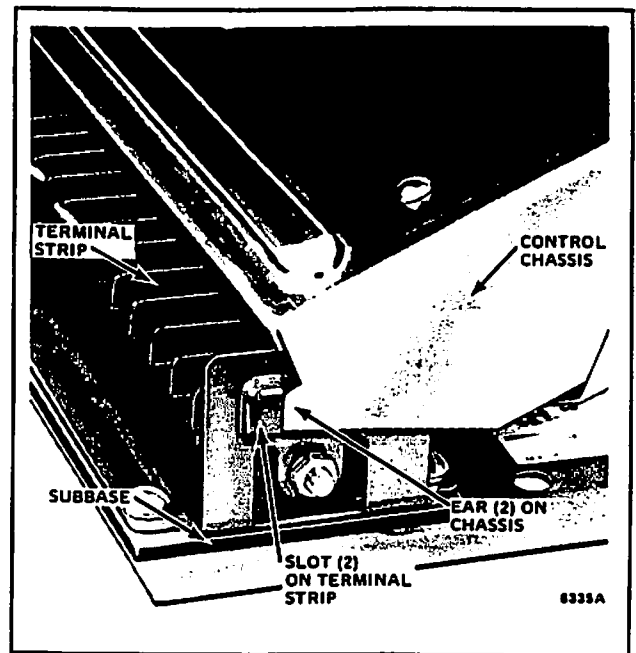

FIG. 12—INSERTING EARS (ON R4138) INTO SLOTS AT TOP AND BOTTOM OF TERMINAL STRIP.
5. Grasp the handle of the R4138 chassis and insert the 2 ears (at the top and bottom along the left side) into the slots at the top and bottom of the terminal strip (Fig. 12).
REMOVING THE R4138 (FIGS. 12 AND 13)
5. Disengage the 2 ears on the chassis from the slots at the top and bottom of the terminal strip (Fig. 12).